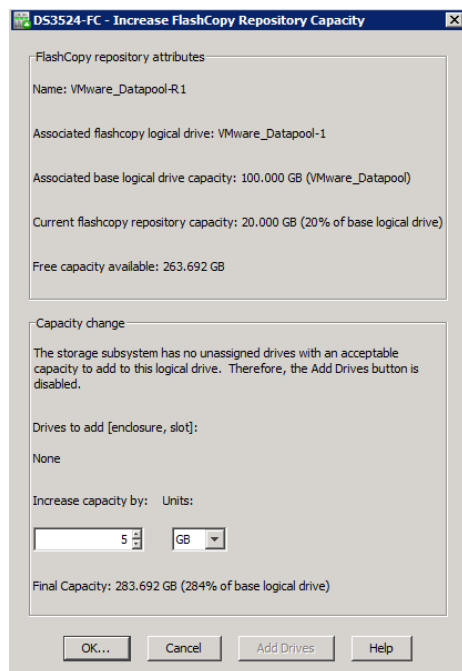

Figure 2-35 Increase FlashCopy Repository Capacity
- First method: Increase FlashCopy repository logical drive capacity by using free capacity on the array of the FlashCopy repository logical drive. See Figure 2-35.
- ii. In the Increase FlashCopy Repository Capacity window (Figure 2-35 on page 46) select **Add Drives**.